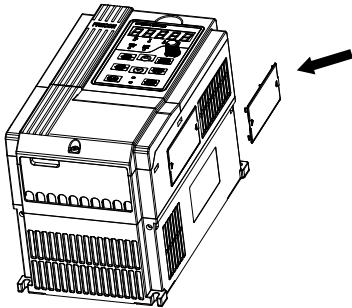

Fig.3-8 Dust cover installation and removal
- a. Install dust cover: The dust cover shown in Fig3-8 parallel to the housing assembly (No cock around is installed) .